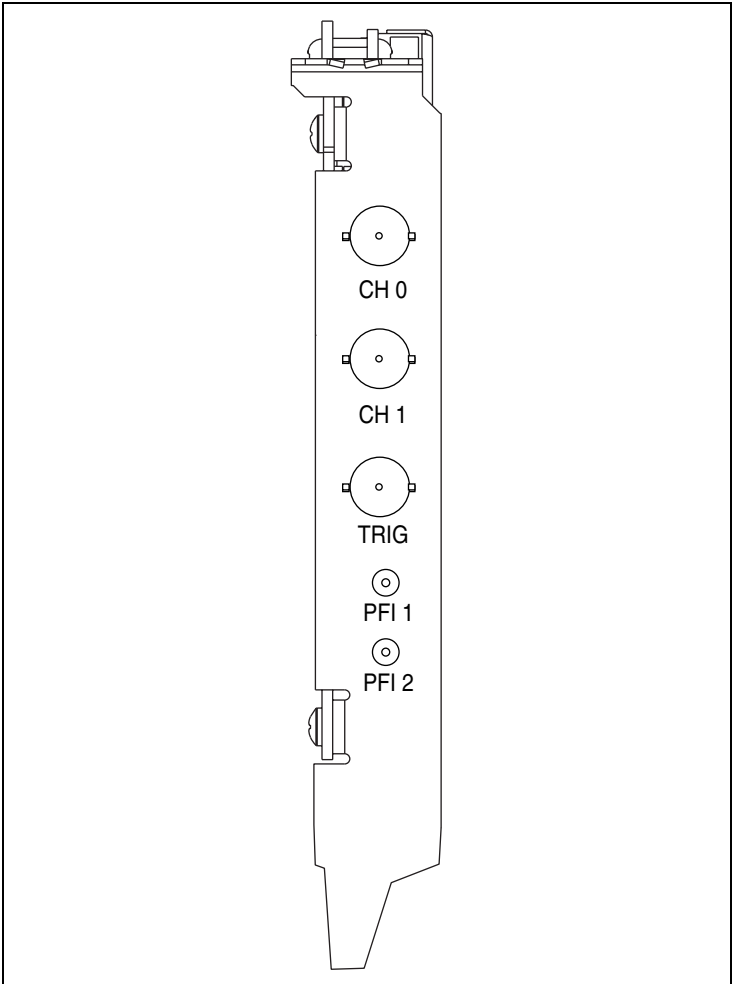

Figure 10. NI PCI/AT-5102 Front Panel
- ◆ **NI PCI/AT-5102 Front Panel**—Figure 10 shows the NI PCI/AT-5102 front panel.